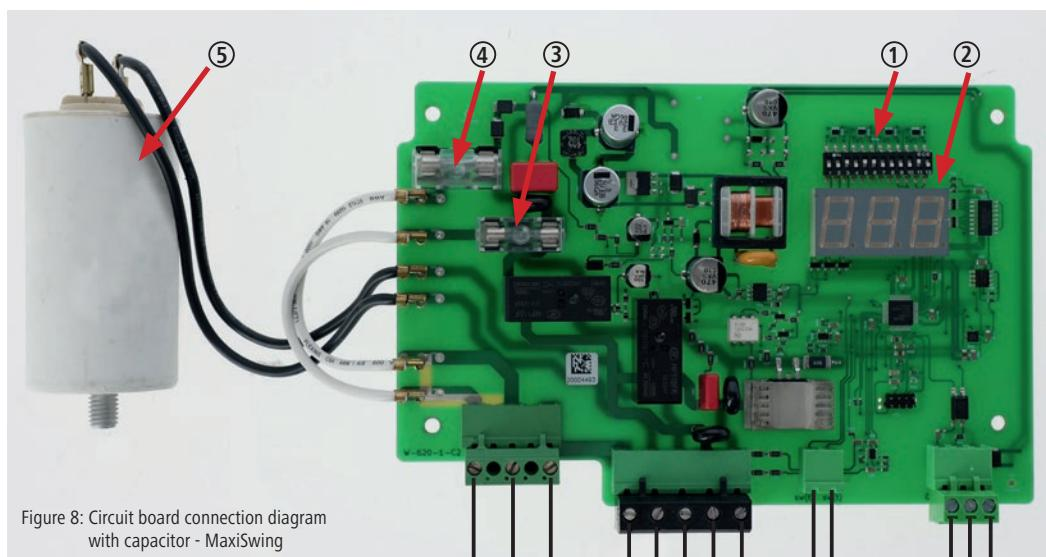

Figure 8: Circuit board connection diagram
The cycle time is set at the factory to 60 seconds. If necessary, this can be adjusted using the dip switch element on the circuit board (Fig. 8 - item 1) to a value between 7.5 and 300 seconds. The cycle time may only be readjusted after consultation with Kerbl Service.
Fuse 6, 3 A (Fig. 8; item 3+4) on the circuit board has burned through or has come loose.	<ul style="list-style-type: none"> Disconnect the control unit from the mains and secure it against being switched on again. Check the secure position of the fuses. Replace defective fuses. (Fig. 8 – item 3+4) If there is no indication on the display when restarting with replaced fuses, then the main board is defective.